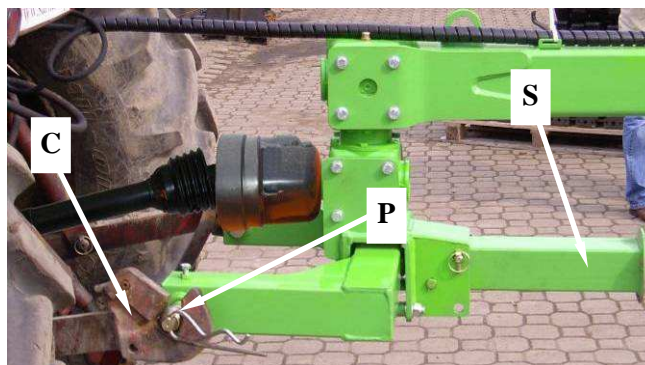

Fig. 7. Connecting mower to the tractor
- ❑ Attach the mower to the tractor with use of 3-point linkage frame. Therefore drive the tractor near the mower's hitch and connect pins (**P**) on the hitch with links (**C**) on the tractor, and then secure them with cotter pins as shown on **Fig. 7**.
- ❑ Connect telescopic articulated shaft. If need be shorten the shaft as per item 5.4.